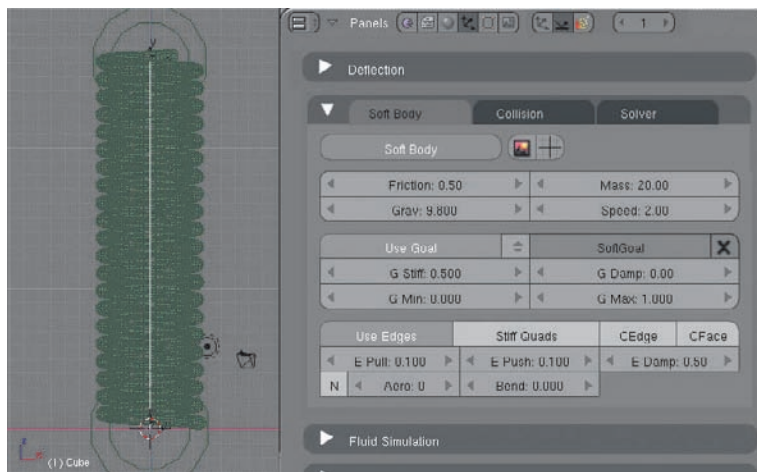
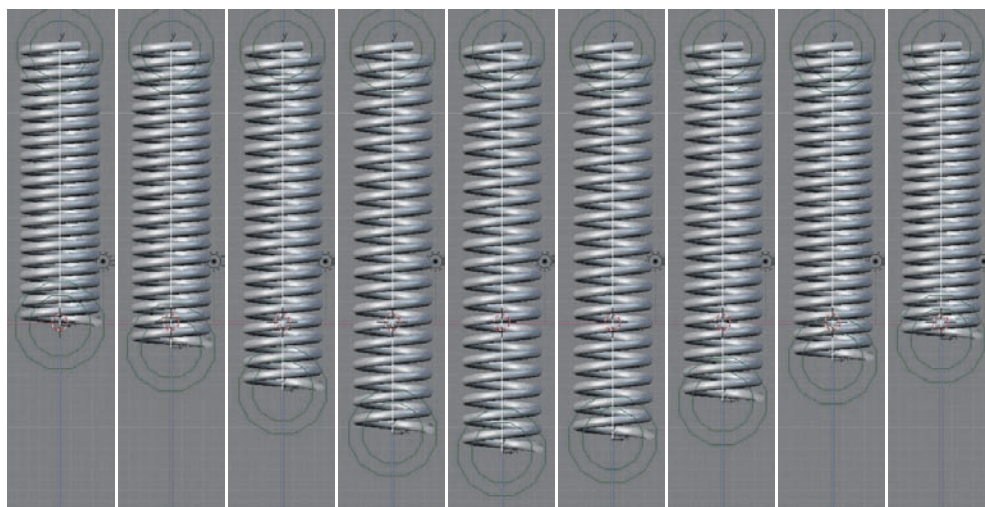

Figure 3.12 Soft body simulation values
Figure 3.13 Soft body spring in action
7. Finally, activate the soft body simulation. Return to Object mode and with the Mesh object still selected, click the Soft Body button on the Soft Body tab in the Physics Buttons area. To start, set the values as shown in Figure 3.12. Run the simulation by pressing Alt+A, and watch the spring deform as shown in Figure 3.13.